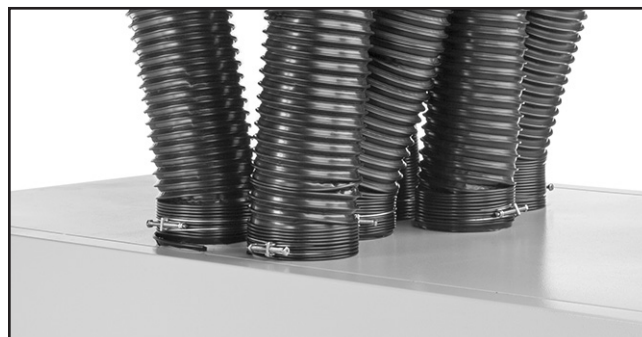

Figure 13. Example of hoses attached to ports.
1. Using 5" hose clamps, secure hoses from dust collection system to dust ports (see **Figure 13**).